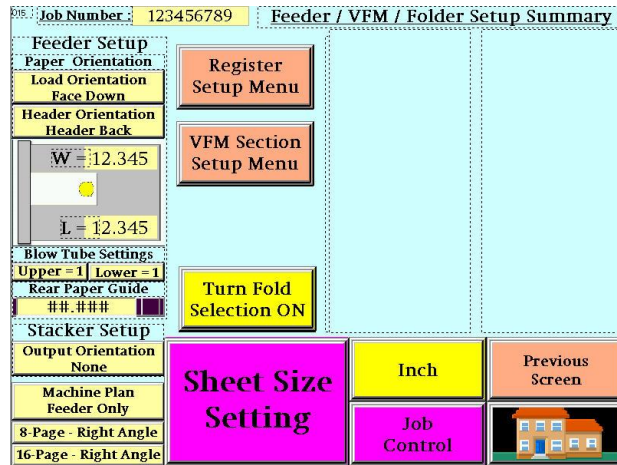

Figure 25
1. Start at the **home screen** (figure 9) press the **main menu** button in the lower right corner. You can also access the feeder Setup from the summary Screen (figure 25) by pressing the Feeder Setup button in the top section of the first column.
3. From the Set Up Summary button screen look at the first column on the left (figure 25) There is an “invisible button” in the blue area in the upper part of the left column that says **Feeder Setup**. Press Feeder Setup. The display should change to the **Feeder Setup** screen.
3. If the 8 page and 16 page are connected then the **Setup Summary Screen** will have visible buttons for each in the left corner at the bottom (figure 25)